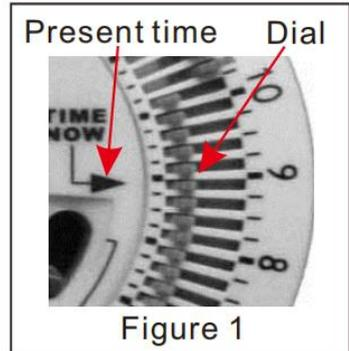

Figure 1
E.g., It is 9:00 am at present. Rotate the dial and make the arrow point to 9:00 (see figure 1).